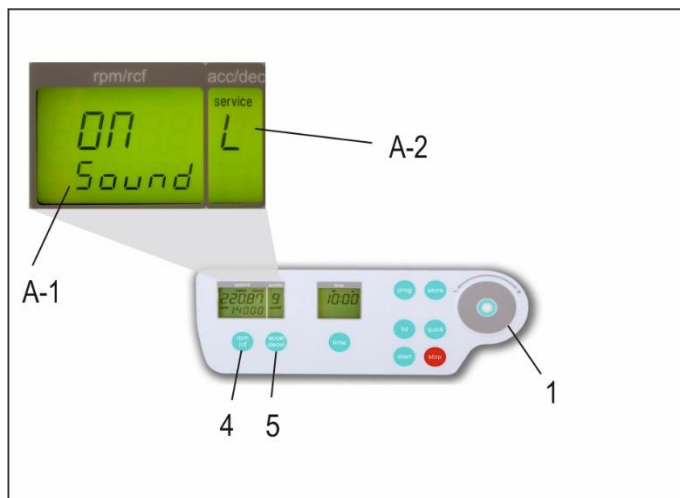

Figure 7
Proceed as illustrated, under point 1.7.1, to enter this program mode, press the key; "accel/decel" (5). In the display, "accel/decel" (A-2) flashes the word, "service". Select the letter, "L" with the control field (1). As a result, appearing in the display "rpm/rcf" (4), are the words, "On Sound". By pressing the key, "rpm/rcf" (4), the word "On" flashes, and the sound can be switched off with the control field (1), (see Figure 7).